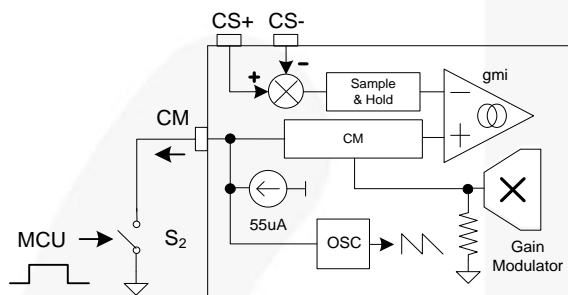
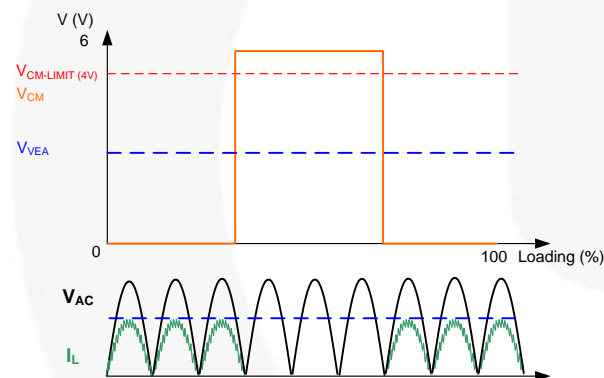

Figure 14. Channel Management by MCU
Figure 15. Channel Management by MCU
To disable the Channel Management (CM) function and control the channels with an external signal from the MCU, the configuration is shown in Figure 14. If  $V_{CM} > 4\text{ V}$ , the channel is disabled. To enable the channel, make  $V_{CM} = 0\text{ V}$ , as Figure 15 shows.